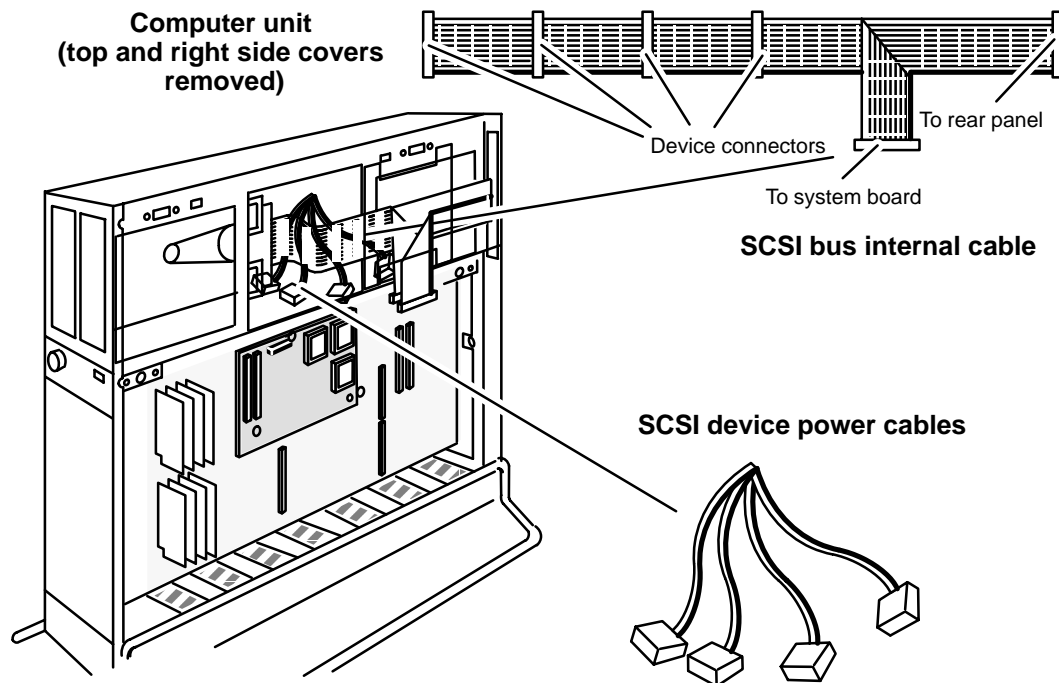

Figure 7-2 SCSI Bus Ribbon Cable and Device Power Connectors
1. Unplug the power and SCSI bus cables from the drive. If the drive assembly contains two half-height drives, unplug the cables from each drive. Figure 7-2 shows the internal drive ribbon cable and power connectors.